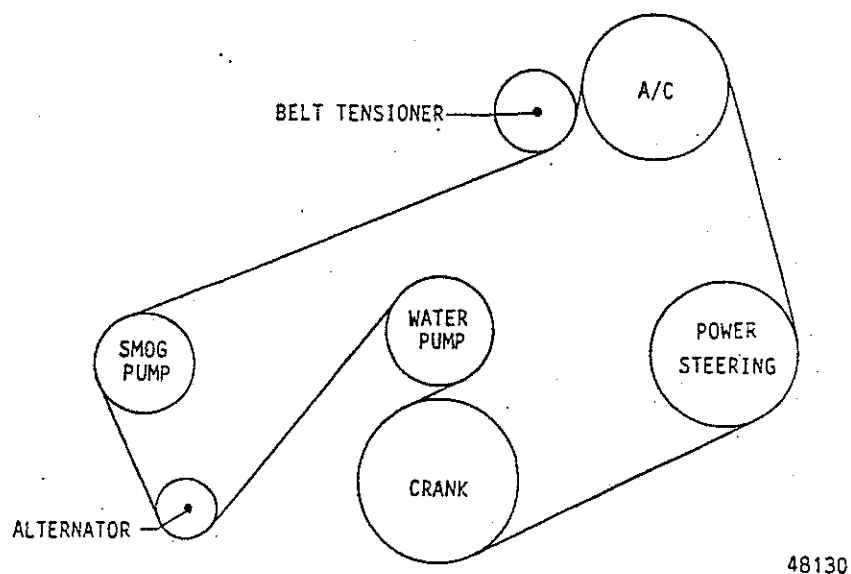

FIGURE 11
15. Re-install the stock accessory drive Serpentine Belt as per diagram (Figure 11). Install the furnished new Understood Sticker (P/N 48130) over the stock one.